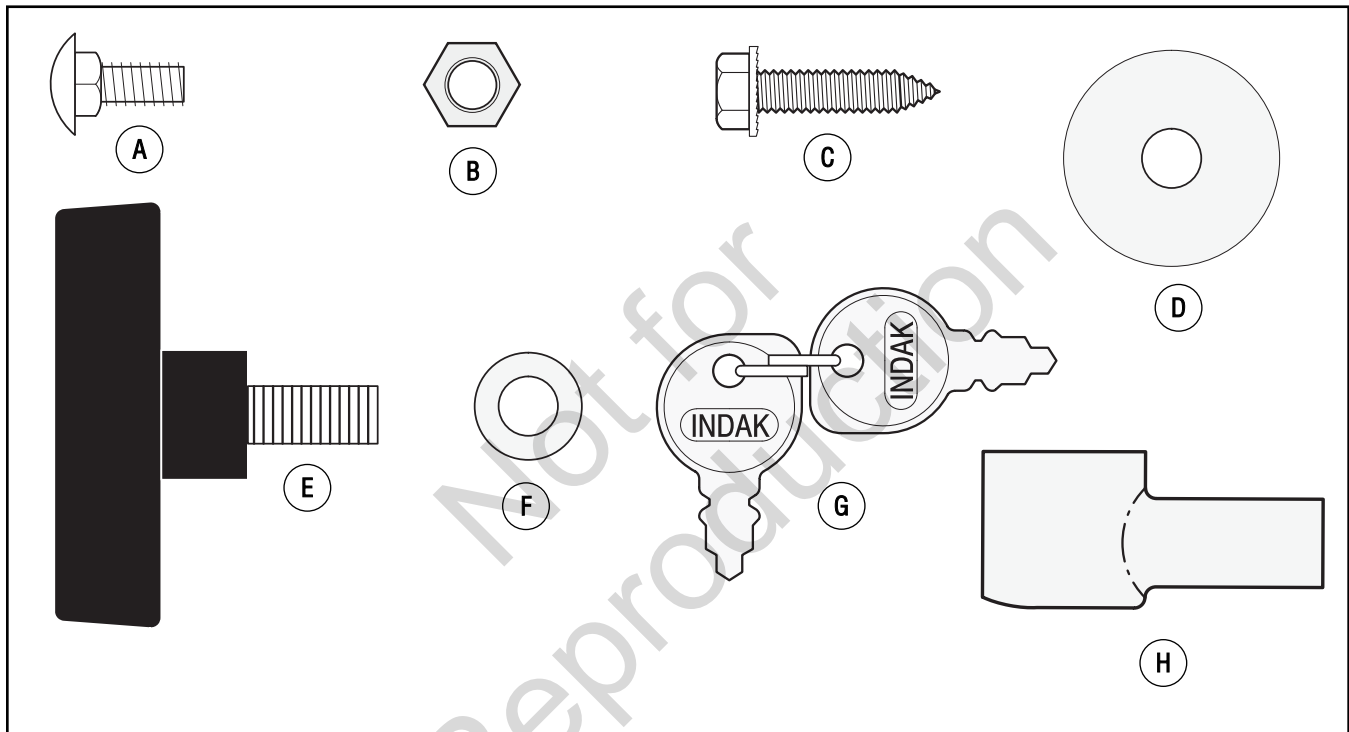

Figure 3: Parts bag components
- A - Wing bolt (Also see 'E' in Figure 3)
B - Washer (Also see 'F' in Figure 3)
- A - Screw (Also see 'C' in Figure 3)
B - Washer (Also see 'D' in Figure 3)
- A - Carriage bolt (Also see 'A' in Figure 3)
- B - Hex nut (Also see 'B' in Figure 3)
H - Terminal cover (Also see 'H' in Figure 3)